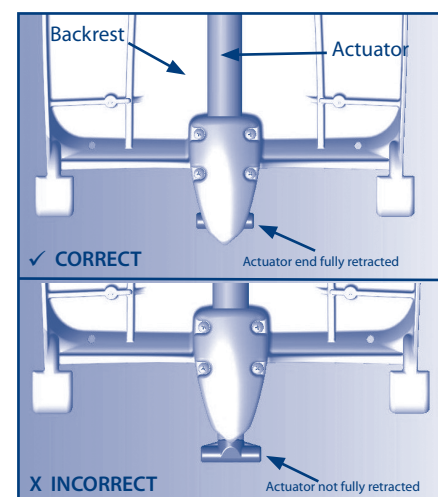

Figure 8
- vi) Before fitting the backrest assembly to the seat unit, ensure the actuator end is fully retracted (see fig 8).